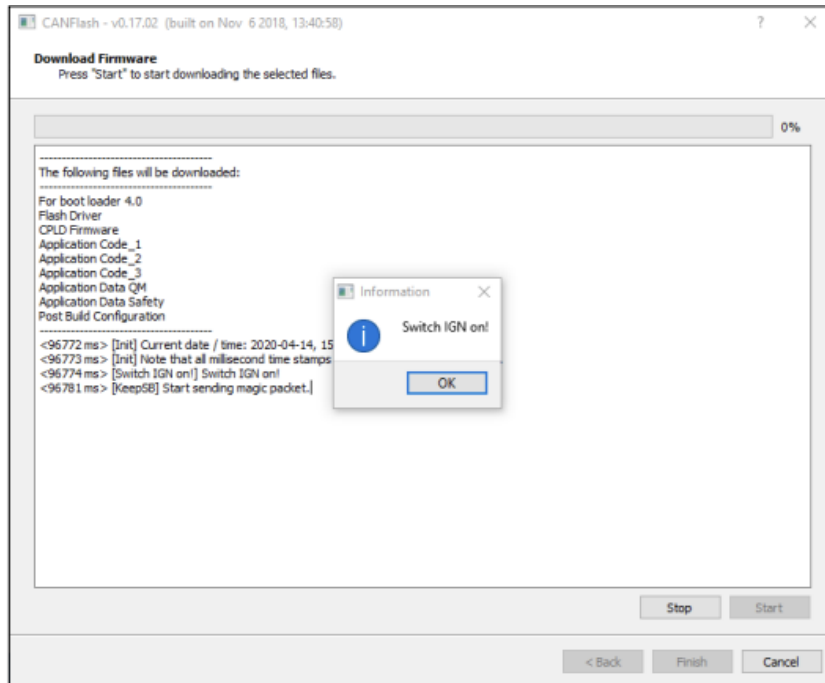

Figure 5: Flip switch on 1144289 when CANFlash shows Switch IGN on!
15. Flip the ignition switch on 1144289 ON when CANFlash says Switch IGN on! (see figure 5). In part 1 you do not need to turn the Master Run switch ON.